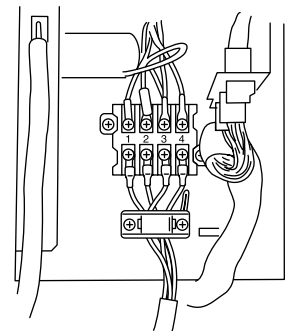

Fig. 8
- 3) Anchor the inter-unit wiring with the clamp. (Fig. 8)